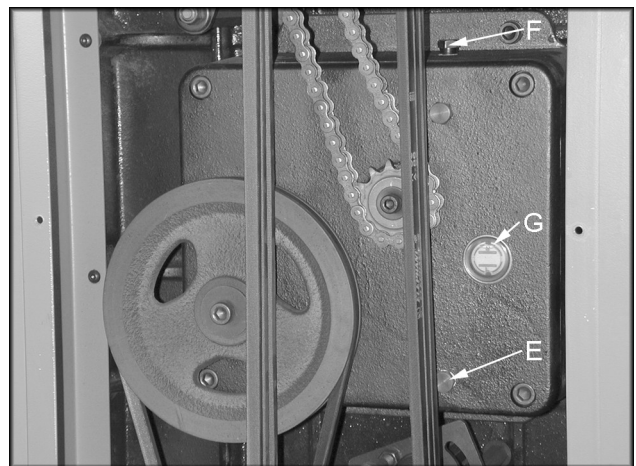

Figure 27
- The gear box oil should be changed once a year. Remove the drain plug (E, Figure 27) to drain the oil. Refill the gear box with 60-90 weight gear oil through the fill hole (F, Figure 27) until the sight glass (G, Figure 27) reads full. The sight glass (G, Figure 27) should be checked periodically and oil added as necessary.